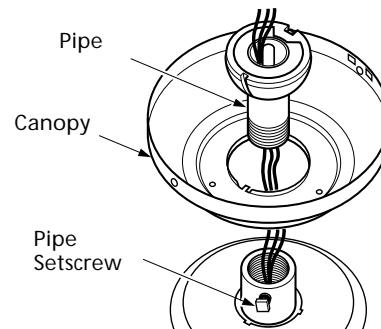

Figure 4a - Inserting Pipe through Canopy
1. Insert the pipe through the canopy as shown in Figure 4a. Feed wires from the fan through the pipe.
2. Screw pipe into fan assembly until tight. **IMPORTANT!** Tighten pipe setscrew as shown in Figure 4a.